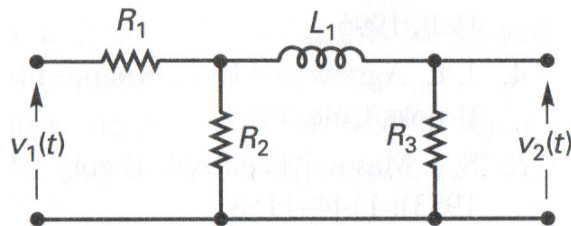

Figure 4.1. RL circuit diagram.
4. Consider the circuit of Figure 4.1.
(c) For the circuit of Figure 4.1, a constant input voltage $v_1(t) = 10 \text{ V}$ is applied to the circuit. Using the final value theorem, find the steady-state value of the output voltage v_2 .